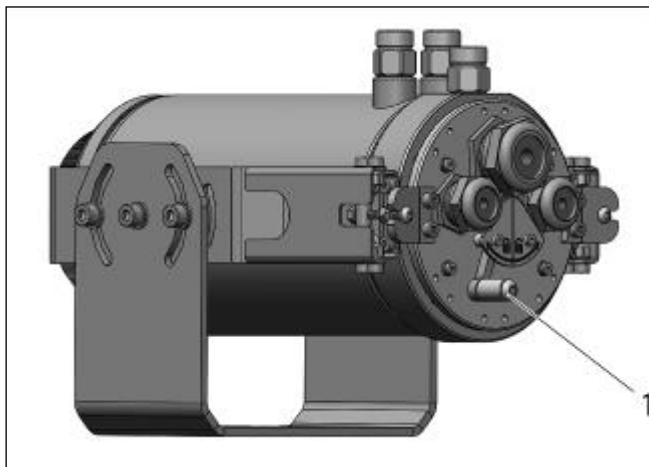

Figure 34: Back side of the CoolingJacket with locking lever
6. Move the locking lever to the left (symbol: ) , so that the chassis is fitted close to the inner surface of the housing (**Figure 34**).
4. Move the locking lever to the left (symbol: ) , so that the chassis is fitted close to the inner surface of the housing (**Figure 34**)